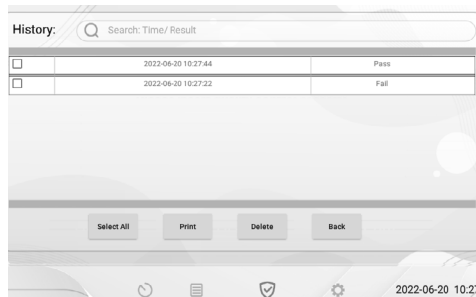

Fig. 5.2.7 View History
- 1 Touch the “**History**” button on the main interface of quality control test to view the record, as shown in Fig. 5.2.7.